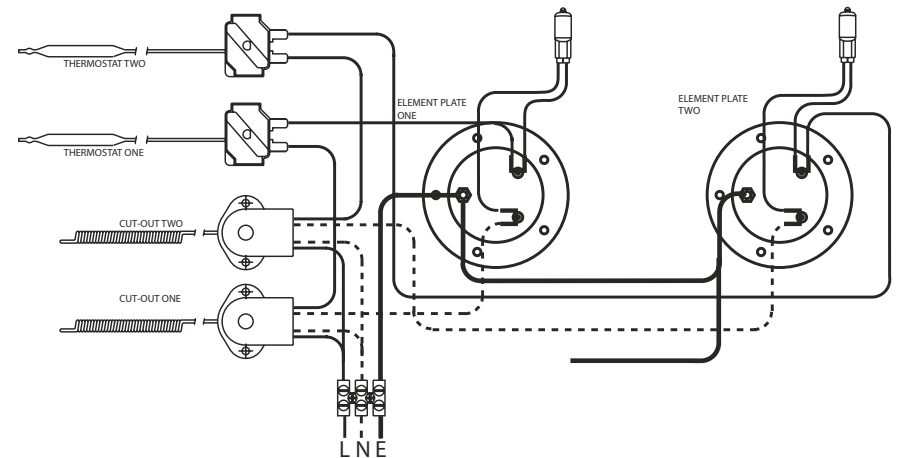

Figure 4: Wiring diagram
- 5.3 The Multipoint water heaters have two elements. Each element has its own thermostat and thermal cut out, refer to Figure 4 for wiring details.
- 8.9 Re-assemble the element plate assembly fitting a new sealing gasket. Rewire the unit with reference to Figure 4 (wiring diagram).